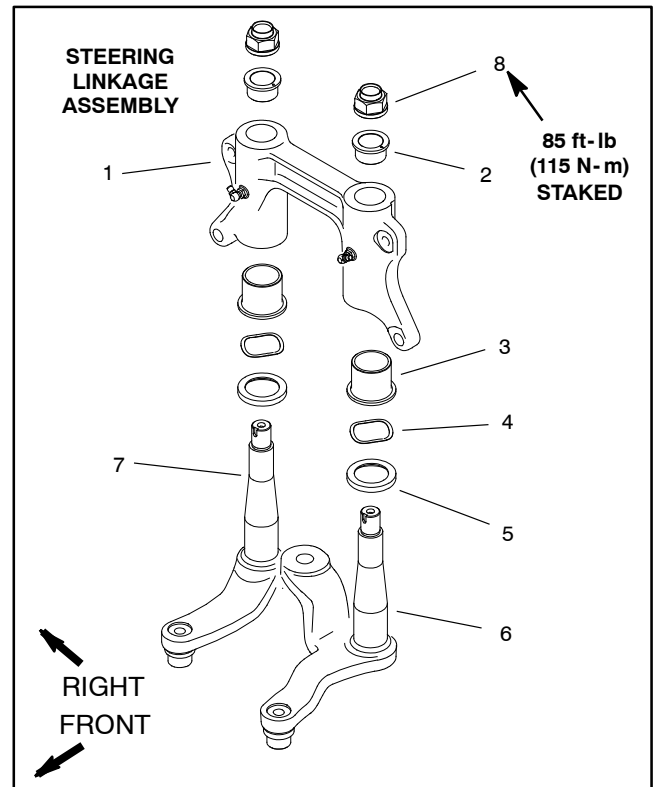

Figure 18
- A. If flange bushings (Fig. 18) were removed from pivot mount, make sure that new bushings are pressed fully into the pivot mount.